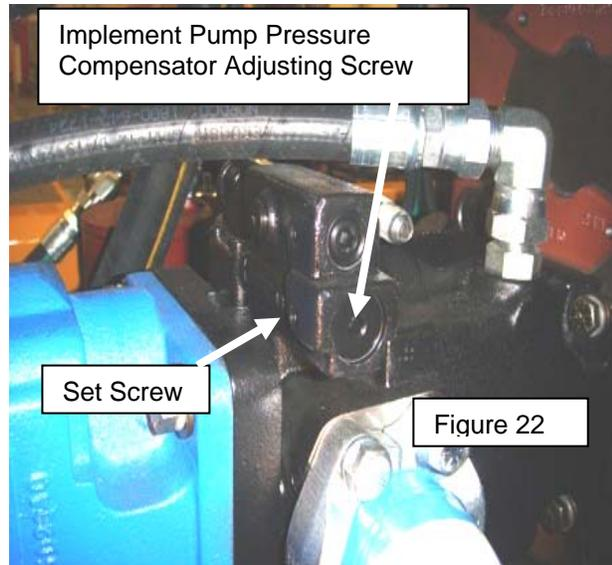

Figure 22
3. If pressure is higher than 2500 psi, loosen the adjusting plug set screw (Figure 22), then turn adjusting plug counterclockwise (CCW) until pressure reads 2500 psi. Tighten set screw.
4. If pressure is lower than 2500 psi, loosen the adjusting plug set screw (Figure 22), then turn the adjusting plug clockwise (CW) until pressure reads 2500 psi. Install a pressure gage on the pressure tap on top of the pressure filter.
3. Loosen set screw to the implement pump compensator adjusting plug (Figure 22).
4. Turn pump compensator adjusting screw (figure 22) counterclockwise (CCW) (about 2-3 turns), but do not remove screw. Leave enough thread engagement to prevent leakage.
6. Turn pump compensator adjusting screw (figure 22) clockwise (CW) until 2900 psi has been reached. Read this pressure at the pressure tap on top of the pressure filter.